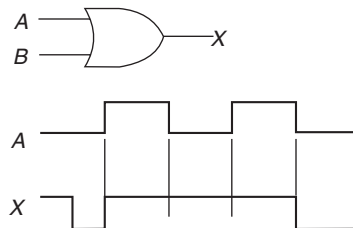

Fig. 4.99
42. The input waveform at A is given for the two-input OR gate in Fig. 4.99. Sketch the input waveform at B that will produce the output at X .